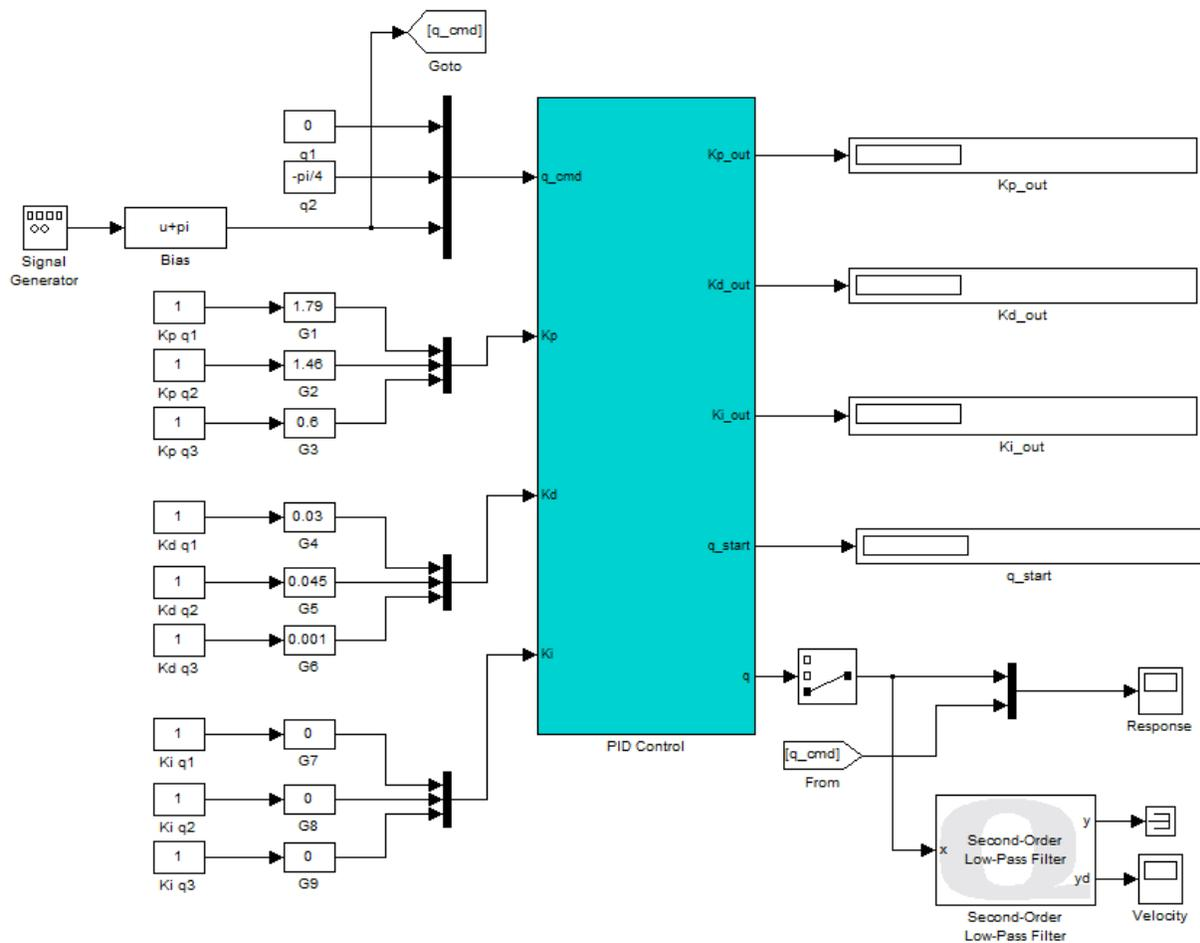

Figure 5.9: Joint 3 velocity measurement model
2. Modify the model to measure the velocity of joint 3 as outlined in Section 5.2.2. Your model should resemble Figure 5.9.